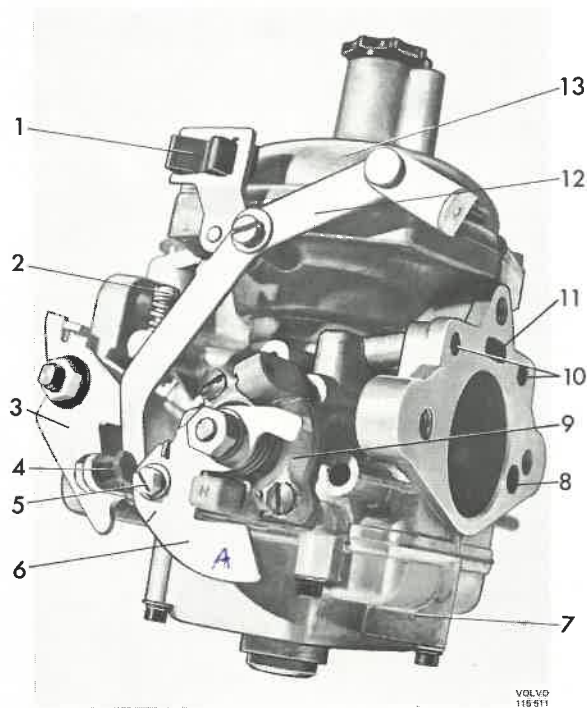

Fig. 23-3. Rear carburettor, from left
To make starting easier during cold weather, the rear carburettor is fitted with a cold start device (9, Fig. 23-3).
housing (5) on the same spindle, there is a cam disc (6, Fig. 23-3) with connection for the choke control pull wire. When the cold start device is engaged, the valve disc turns and this links up the channel (1, Fig. 23-6) from the floatchamber via one or several of the calibrated holes to the channel behind the valve disc and then the opening to the channel which terminates in the ventury (2) between the vacuum plunger and choke flap. Through this link-up, the engine receives extra fuel (richer mixture), to facilitate cold starts. At the same time a small supply of air is also obtained through the choke device. When
the choke is pushed in, the valve disc turns and closes the inlet to the channel. At the same time the cam disc is operated, the throttle flap opening is also influenced in such a way that turning the cam disc opens the throttle through the fast idle stop screw (4, Fig. 23-3) and the lever, before any of the calibrated holes open the connection to the fuel drilling. Thanks to this arrangement, the idling speed can if necessary be raised by the driver of the vehicle during the warming-up period of the engine.